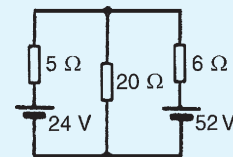

Figure 13.28
4. Use the superposition theorem to determine the current in each branch of the arrangement shown in Fig. 13.28.